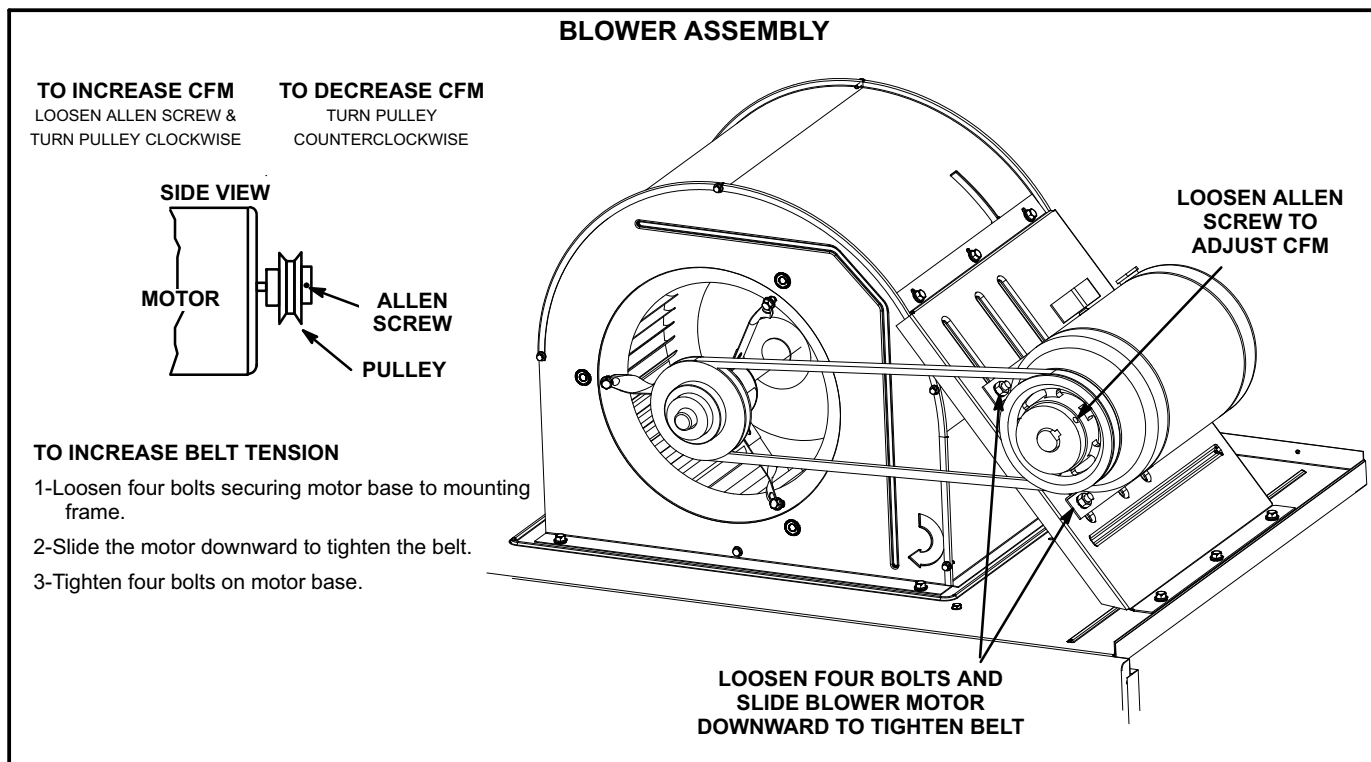

FIGURE 21
- 4- The blower RPM can be adjusted at the motor pulley. Loosen Allen screw and turn adjustable pulley clockwise to increase CFM. Turn counterclockwise to decrease CFM. See figure 21. Do not exceed minimum and maximum number of pulley turns as shown in table 3.
- 1- Loosen four bolts securing motor base to mounting frame. See figure 21.